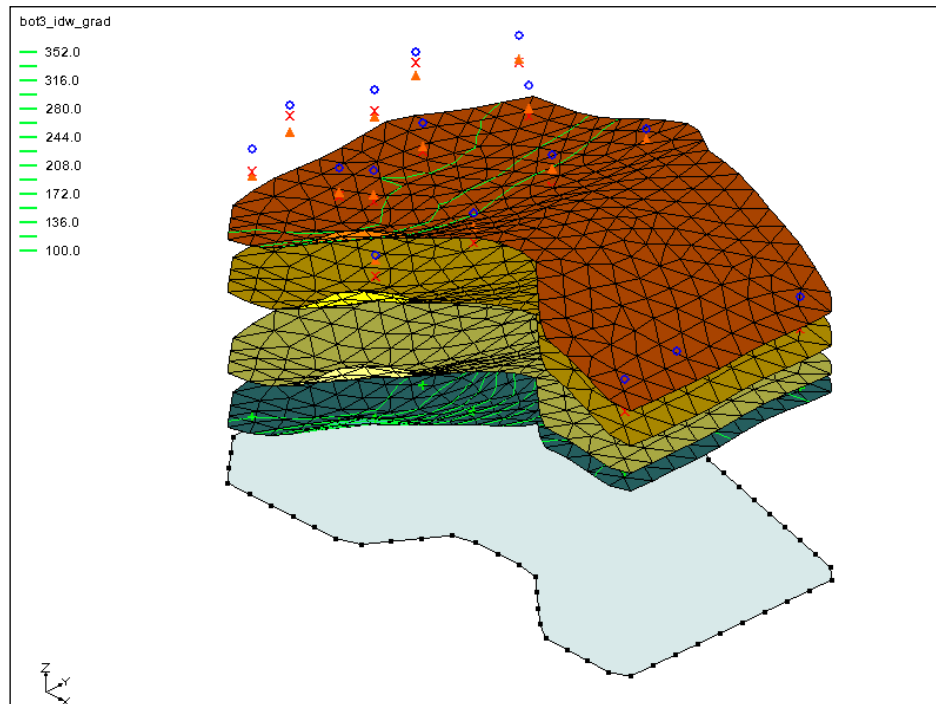

Figure 4 After interpolating the layer elevations
1. Switch to **Oblique View** . The Graphics Window should appear similar to Figure 4.